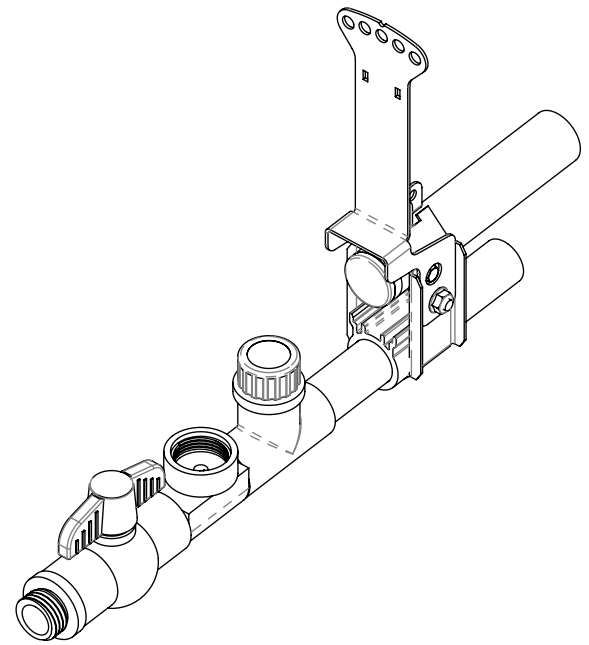

Figure 9 - Isometric View of Assembly
2. Use PVC cement to glue garden hose adapters (P/N: VE326 for US, VE326M for SI) and ball valve (P/N: VV801) as shown in figure 9.
6. Insert (2) 690112 tek screws through the side holes of the 820661 bracket into the metal pipe.
9. If a hose is connected to the garden hose adapter on the tee, use PMTT6 Zip tie to secure hose to drop cord. Cap off tee with 820683 (US) or 820684 (SI) if not used.